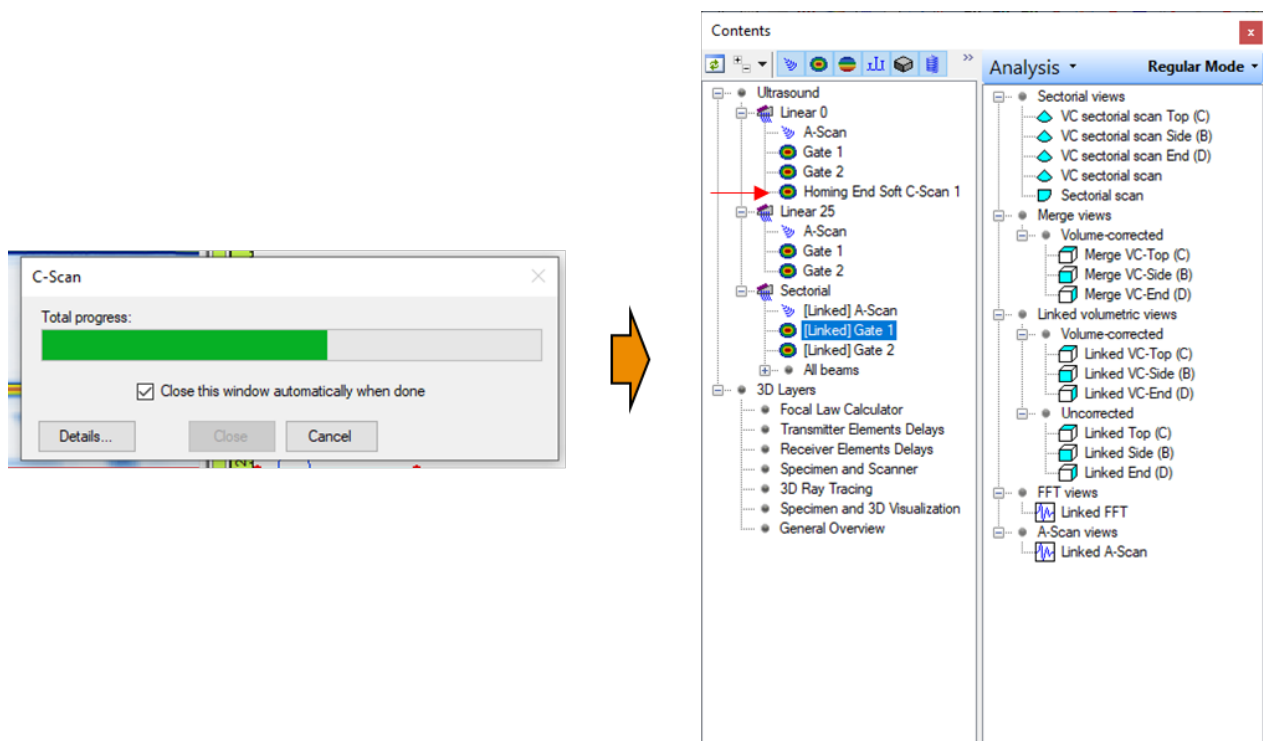

Figure 31: Processing and creation of Homing End Soft C-Scan
8. Once, the Soft C-Scan is processed, it will appear in the Contents menu (See Figure 31).